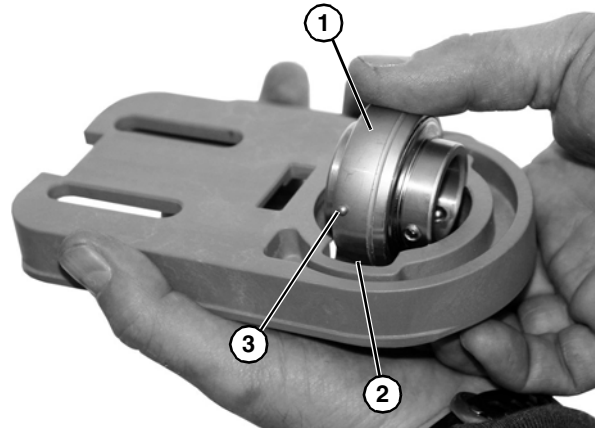

Figure 98
2. Turn bearing (Figure 98, item 1) to align with slots (Figure 98, item 2) in bearing housing. Then remove bearing.
4. Insert bearing (Figure 98, item 1) into housing slot: Locate anti-rotation nub (Figure 98, item 3) to align with slot (Figure 98, item 2), and twist bearing into housing.